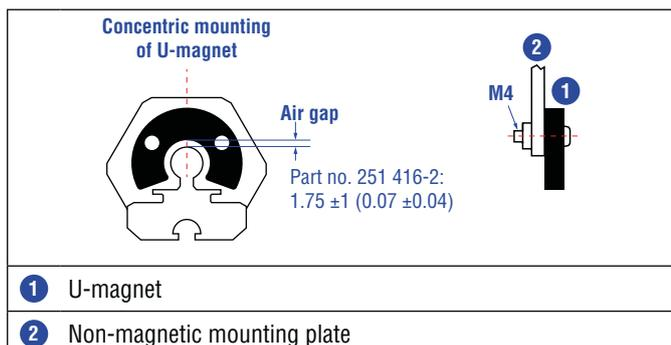
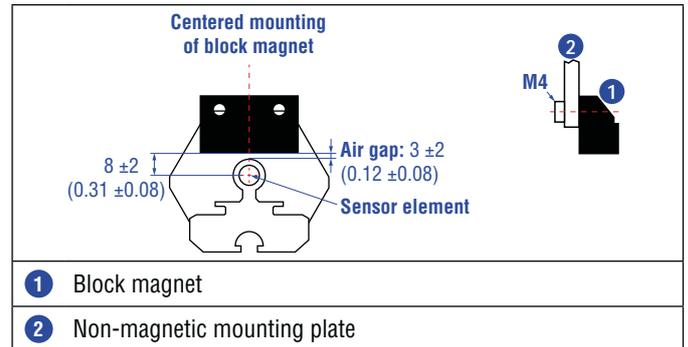

Fig. 30: Mounting of U-magnet (part no. 251 416-2)
Fig. 31: Mounting of block magnet (part no. 403 448)
- Mount block magnets centrally over the sensor rod or the sensor profile. The maximum permissible air gap must not be exceeded (Fig. 30/ Fig. 31).